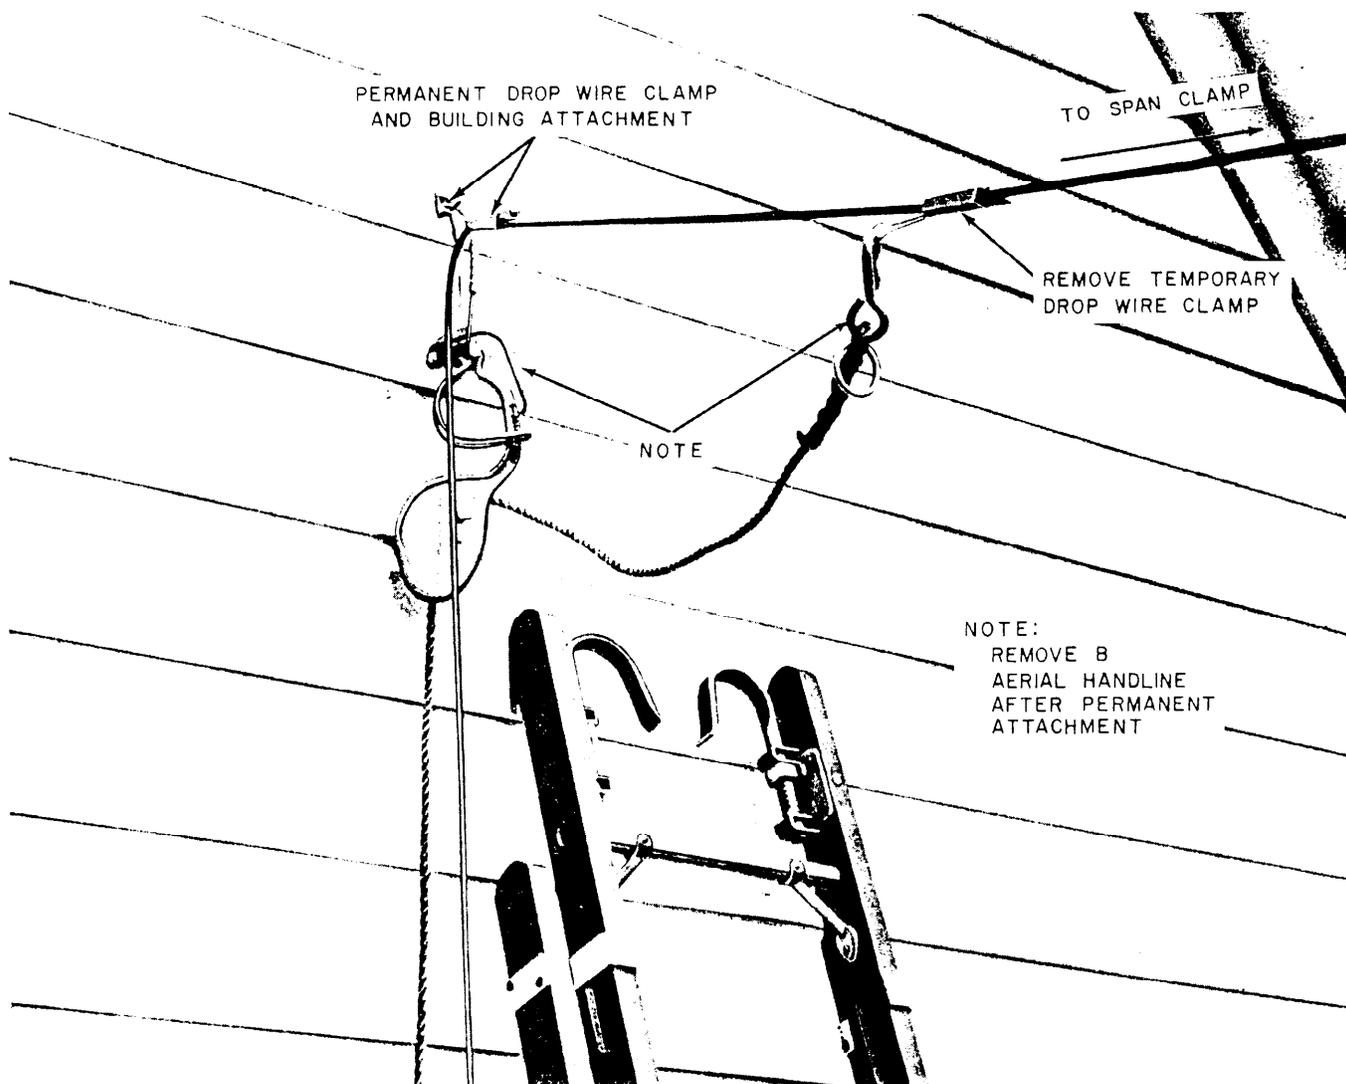

Fig. 33-Completing Permanent Building Attachment
- (10) When the drop wire is raised to its approximate final stringing sag (see Section 462-400-200), move the rope of the B aerial handline in a lateral motion to activate the automatic locking device on the handline to hold the drop wire in the raised position. The craft person may then ascend the ladder to make the permanent building attachment. Install the permanent drop wire clamp on the drop wire and the building attachment as shown in Fig. 33.